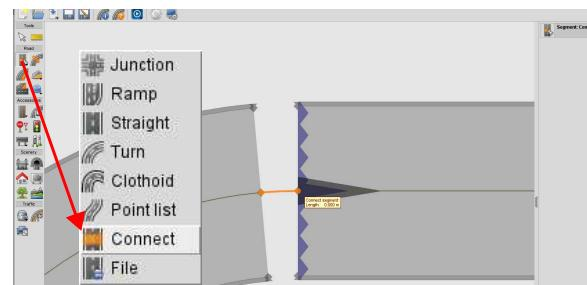

Figure 3.14: Connecting the road segments
- 3) The pylons only work in one chosen direction. The direction is shown as a small arrow at the beginning of the Link (see Figure 3.14:).
- 3) As mentioned in previous tips: The pylons are only working in one chosen direction. The link direction is shown as a small arrow in the beginning of the link.(see Figure 3.14:).